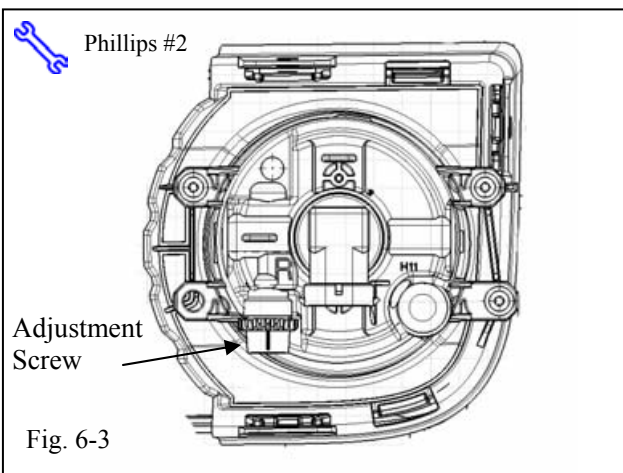

Fig. 6-3
- (1) Using Phillips screwdriver, turn adjustment screw to adjust beam height as shown in Fig. 6-3.